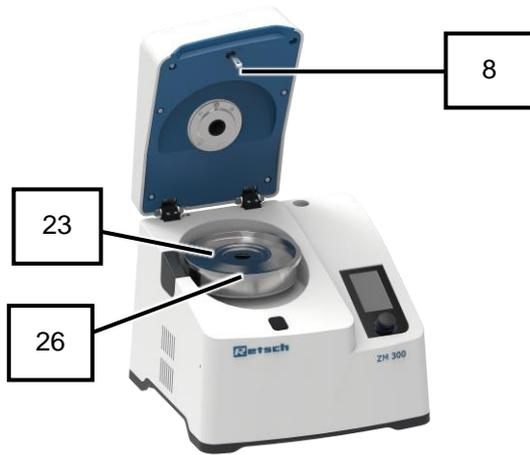

Fig. 22: Interior with open cassette
12. Close the cassette (24) with the cassette lid (23) (Fig. 22).
13. Close the device hood (2) and hold it in closed position for approx. 2 seconds.